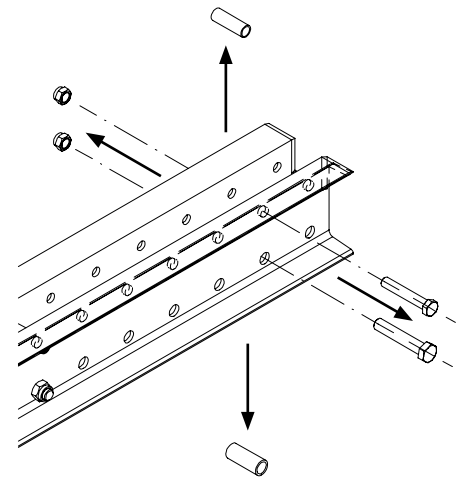

Fig. B2.01b
5. Remove the external spacers. (Fig. B2.01b)
- After the bolts have been removed, six rows of holes must be free up to the next pair of bolts. (Fig. B2.01b)